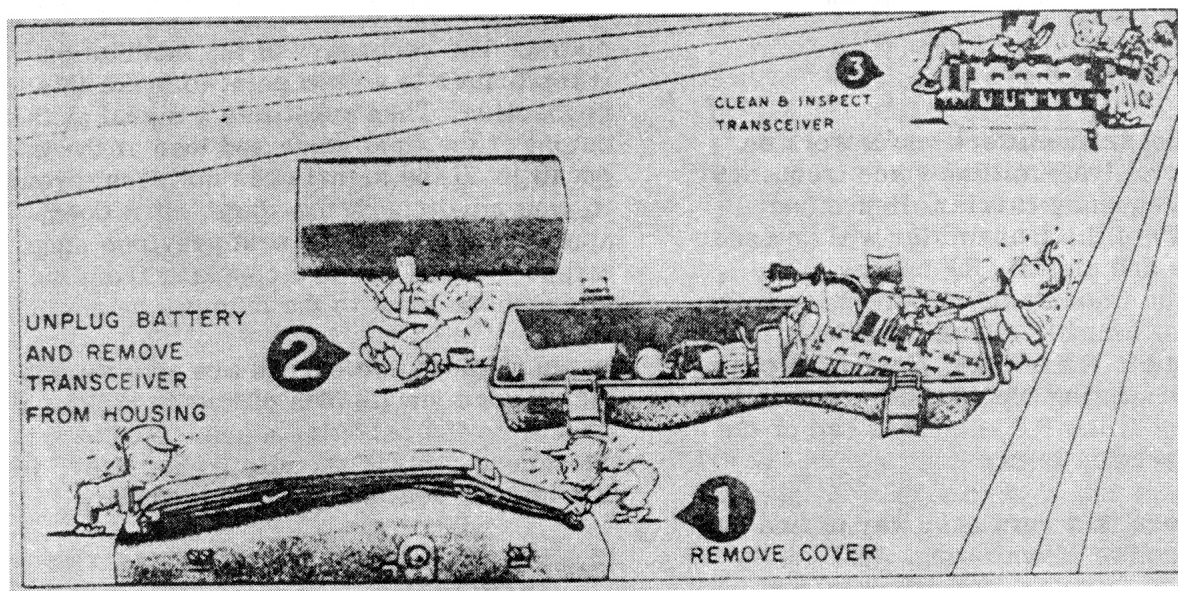

Figure 12. Removing and inspecting the transmitter.
a. After making sure the power supply is operating properly, the transmitter should be inspected before proceeding with steps 4-7 of the troubleshooting procedure. Naturally, before you can make a visual inspection of the transmitter chassis you have to remove it from the case as shown in figure 12 -- then make an inspection.
(1) Inspect all parts for rust, corrosion, breakage or other damage.